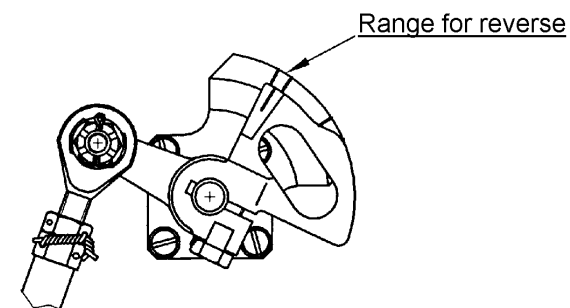

Figure 11-21 Reverse output adjustment - scale
- d) Place the engine condition lever to maximum reverse position after reverse power adjustment. Guideline on the cam lever should align with reverse range zone (figure 11-21). If not, adjust according to the engine operational manual.